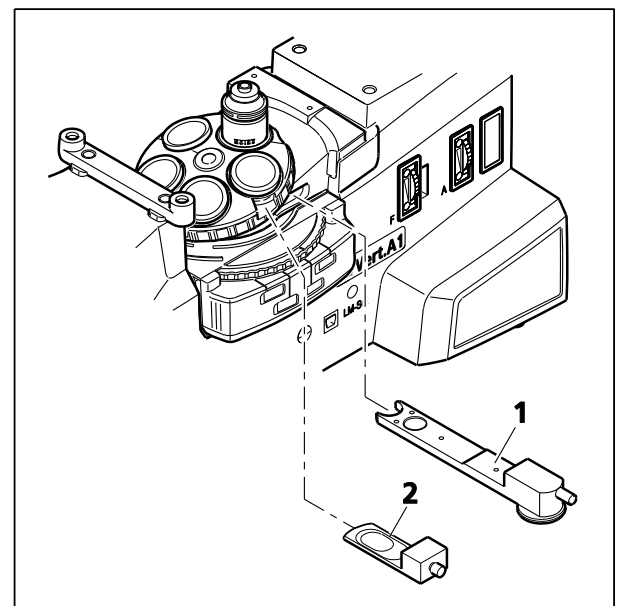

Fig. 4-16 Setting DIC/C-DIC
- Put the DIC slider (Fig. 4-16/2) into the slot of the nosepiece.
- Insert C-DIC slider 6x20 (Fig. 4-16/1) into the slot.